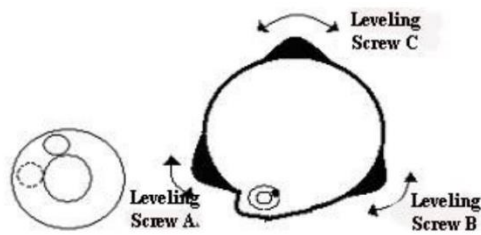

Figure 4-1
(3) Roughly leveling the instrument by using the circular vial
a. Turn the leveling screw A and B to move the bubble in the circular vial as below Figure 4-1 shown, in which case the bubble is located on a line perpendicular to a line